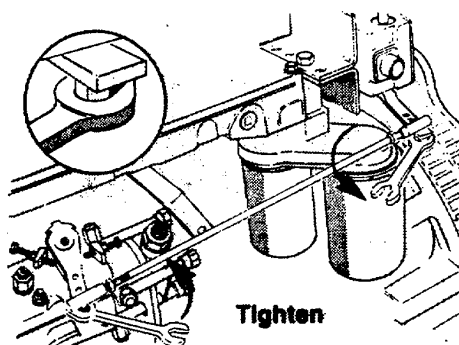

FIGURE 3-10. Tighten Linkage and Levers
- (4) Ensure all linkage and levers are securely tightened. (FIGURE 3-10)